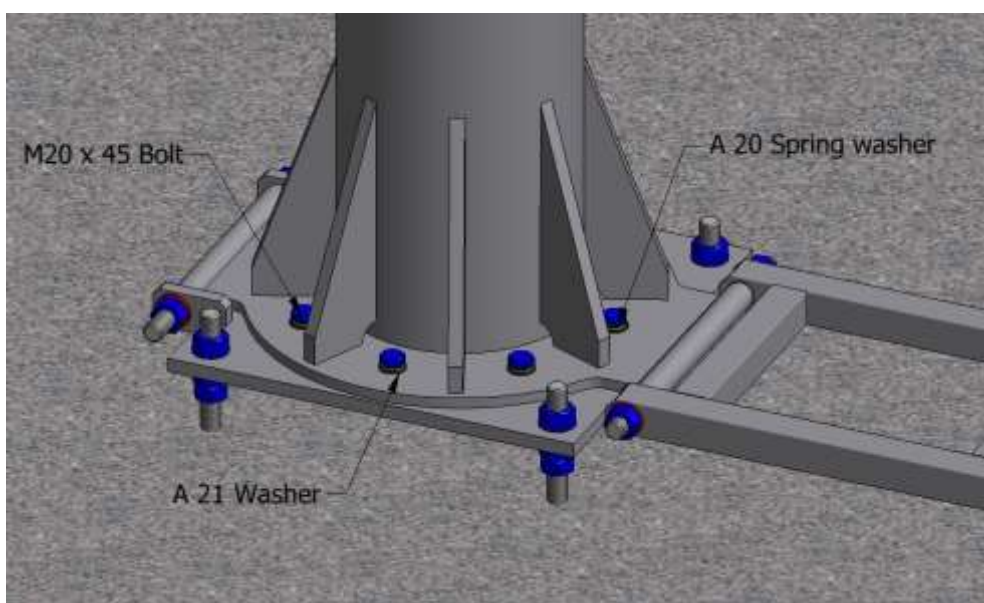

Figure 13 – Fixing tower bolts
4. Fit eight M20 x 45 bolts with a spring washer and then a regular washer and place the bolts to join the 1st segment to the tower base plate (see Figure 13). Use WD-40 oil to lubricate the bolts before placing them into the threaded holes. Fix the bolts cross wise with a torque of 434 Nm, going first 50% and then 100%. ! **TIP:** When having trouble getting bolts into threads, move the mast via gin-pole left to right or front to back. If necessary loosen slightly pressure on the lifting cable but DO NOT relieve the downward pressure on the gin-pole.
5. Fit eight M20 x 45 bolts with a spring washer and then a regular washer and place the bolts to join the 1st segment to the tower base plate (see Figure 13). Use WD-40 oil to lubricate the bolts before placing them into the threaded holes. Fix the bolts cross wise with a torque of 434 Nm, going first 50% and then 100%. **! TIP:** When having trouble getting bolts into threads, move the mast via gin-pole left to right or front to back. If necessary loosen slightly pressure on the lifting cable but DO NOT relieve the pressure on the gin-pole.